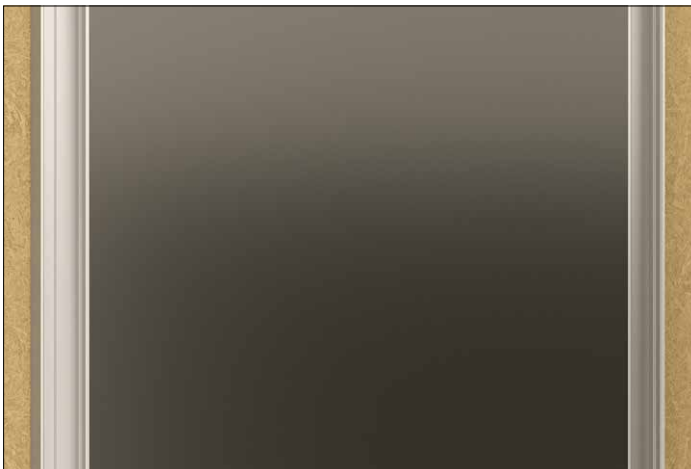

Figure 7
- 6 Fit in and attach panel onto panel stiffener (Figure 7).